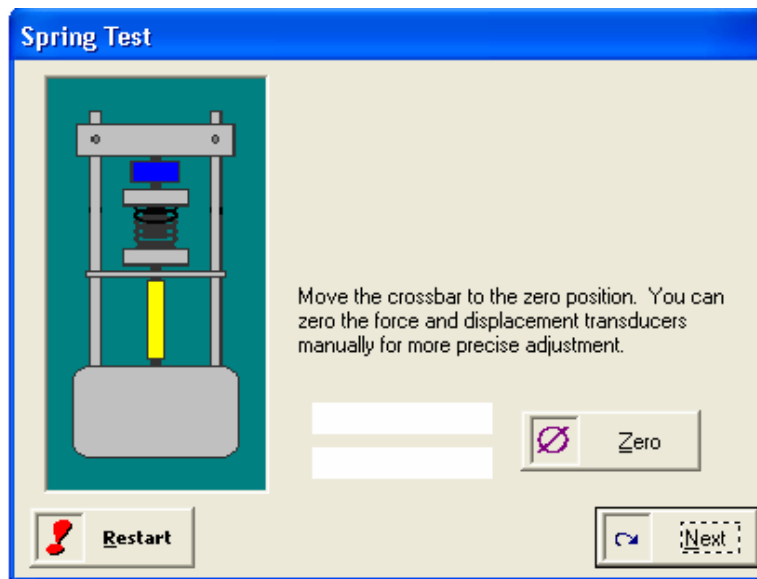

Figure:3
- In the next window you may use the zero button to zero the force and displacement sensors. This only affects the live reading and has no effect on the test (figure:3)